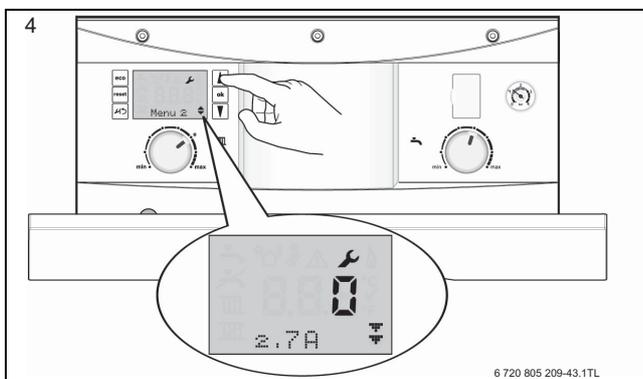

Fig. 63
- 4. Select the desired menu option using the arrow buttons (refer to figure 63) and press the OK button, the option will flash.